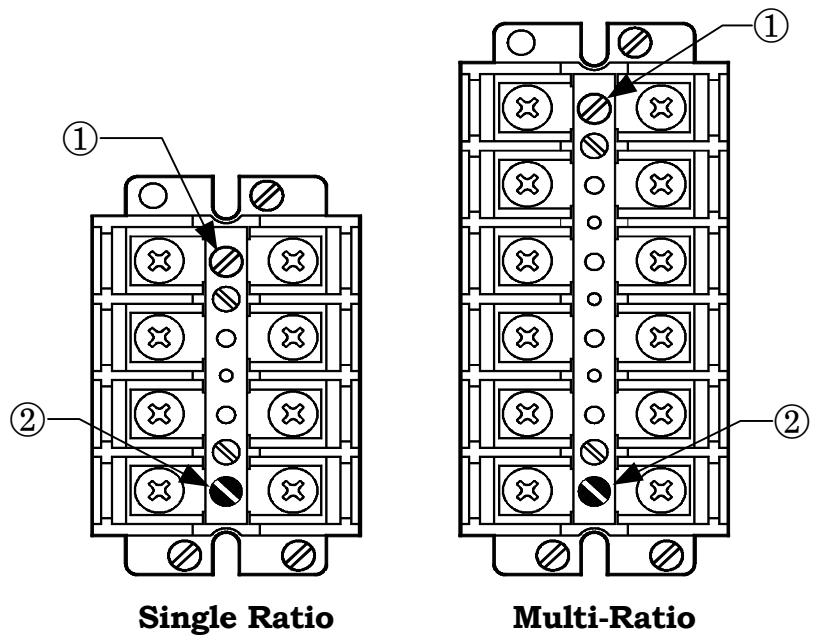

Figure 22. Short Circuiting Device
If shorting Terminal Blocks are used, review Connection Diagram for position of shorting screws. See Figure 22 on page 39.
15. Remove shorting screws from the terminal blocks in the current transformer circuits. See **Figure 22** on page 39. Store screws in the tapped holes in the corners of the blocks.